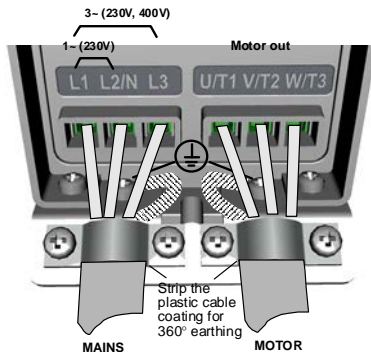
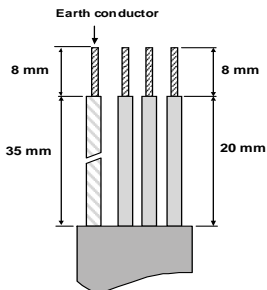

Figure 3.17: Vacon 20 power connections, MI1
Figure 3.31: Stripping of cables
4	<p>Connecting the cables:</p> <ul style="list-style-type: none"> <li>• Strip the motor and mains cables as advised in Figure 3.31.</li> <li>• Connect the mains, motor and control cables into their respective terminals, see Figures 3.17 - 3.26.</li> <li>• Note the tightening torques of power cables and control cables given in chapter 3.2.1 and 3.2.2.</li> <li>• For information on cable installation according to UL regulations see Chapter 3.2.8.</li> <li>• Make sure that the control cable wires do not come in contact with the electronic components of the unit.</li> <li>• If an external brake resistor (option) is used, connect its cable to the appropriate terminal.</li> <li>• Check the connection of the earth cable to the motor and the frequency converter terminals marked with</li> </ul> <div data-bbox="557 879 607 928" data-label="Image"> </div> <ul style="list-style-type: none"> <li>• Connect the separate shield of the motor cable to the earth plate of the frequency converter, motor and the supply centre.</li> </ul>
**Note!** Strip also the plastic cover of the cables for 360 degree earthing. See Figures 3.17, 3.18 and 3.25.